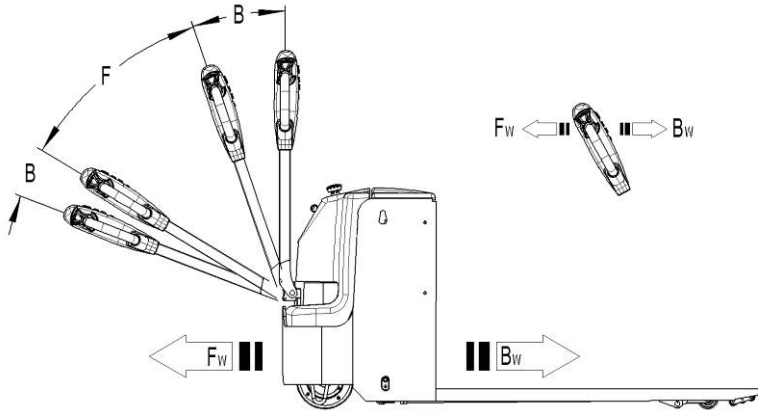

Fig. 9: Operating direction
After starting the truck by turning on the key switch (8), move the tiller to the operating zone ('F', fig.9).
Turn the accelerator button to the desired direction forward 'Fw.' or backwards Bw.'(fig. 9).